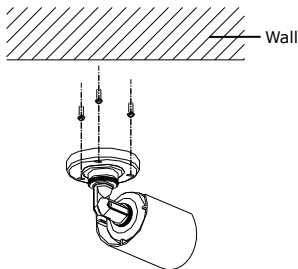

Figure 2-8 Secure the Camera
2. Secure the mounting base to the wall with screws as shown in Figure 2-8.